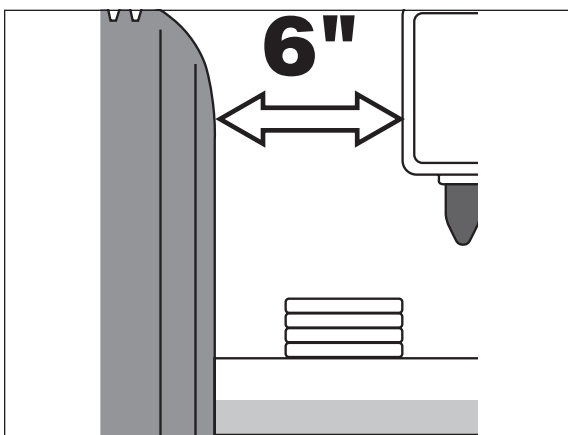

Figure 3
- Measure the distance between the frame and the tire. This kit requires a minimum of 6" of clearance for a fully inflated air spring (Figure 3).